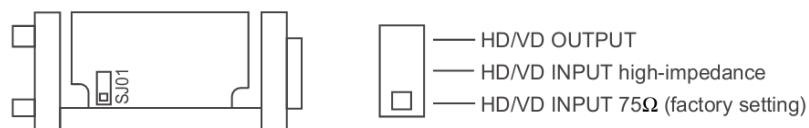

Figure D5: IK-TF5 internal DIP switch setting.
1. the internal DIP switch (accessed by removing the metal chassis of the camera) should be set in the HD/VD Input 75 Ohm position (factory setting), as in Fig. D5.